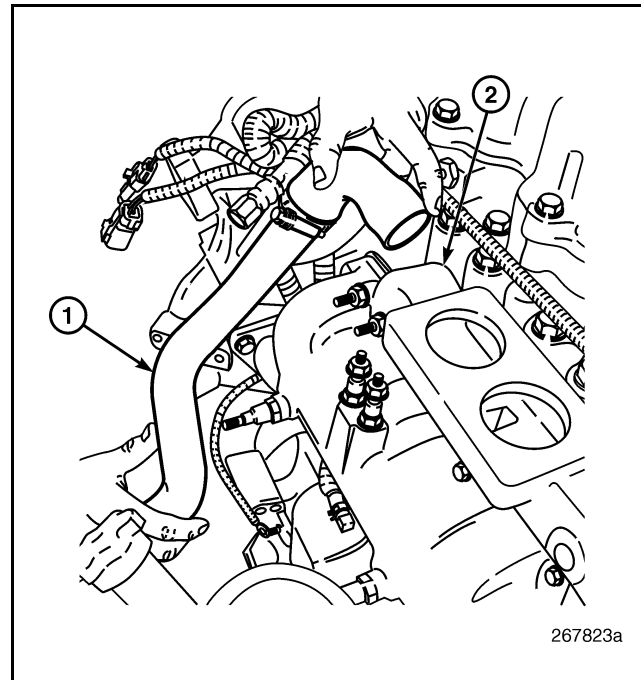

Figure 467 — Coolant Bypass Tube
2. Carefully remove the tube through the tight spacing between the water pump housing and the inlet manifold (Figure 467).